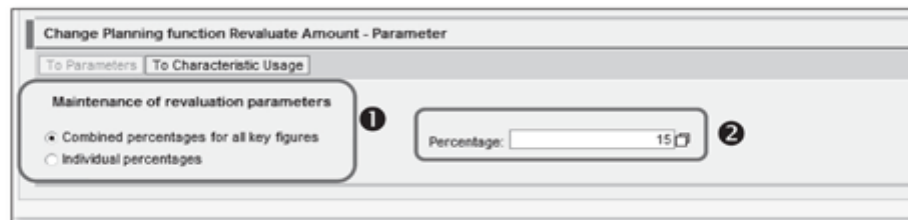

Figure 12.60 Define Revaluation Planning Function
You can define a Revaluation planning function for all of the key figures in the selected set of data. Also, you can define each key figure to be revaluated separately with a different revaluation factor (❶ of Figure 12.60).
Define the revaluation factor as shown in ❷ of Figure 12.60. The revaluation logic with which the new value is calculated can be represented as follows: